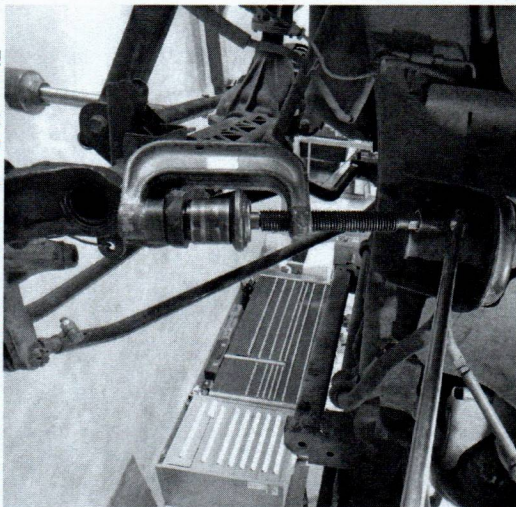

Figure 12. Pressing the Upper Ball Joint into Housing
14. Press the upper ball joints into the axle housing. We recommend leaving the dust boot on the upper ball joint, it can be difficult to install on the joint after the joint has been pressed into the housing. It is critical that the body is pressed in evenly and smoothly. Grease is not necessary but can be used if desired. The press tool should sit on the lip on the outside of the ball joint body. A short piece of 2.25" x .188" wall DOM tubing is the ideal size for a sleeve for pressing in the upper ball joint if a good sleeve is otherwise unavailable. The joint must sit flat and flush against the upper surface of the inner c. See Figure 12.